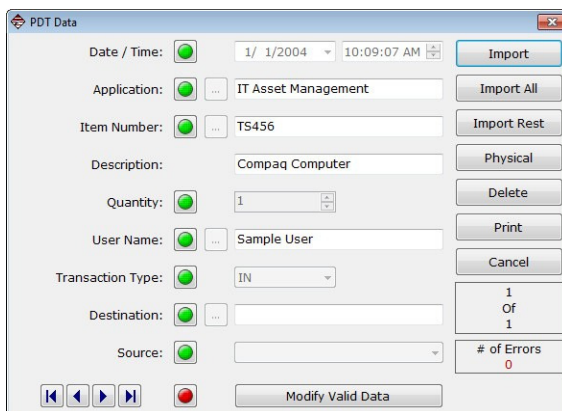

Figure 6-8 PDT Data
- 1 On the **PDT Data** window (Figure 6-8), click the **Physical** button.window